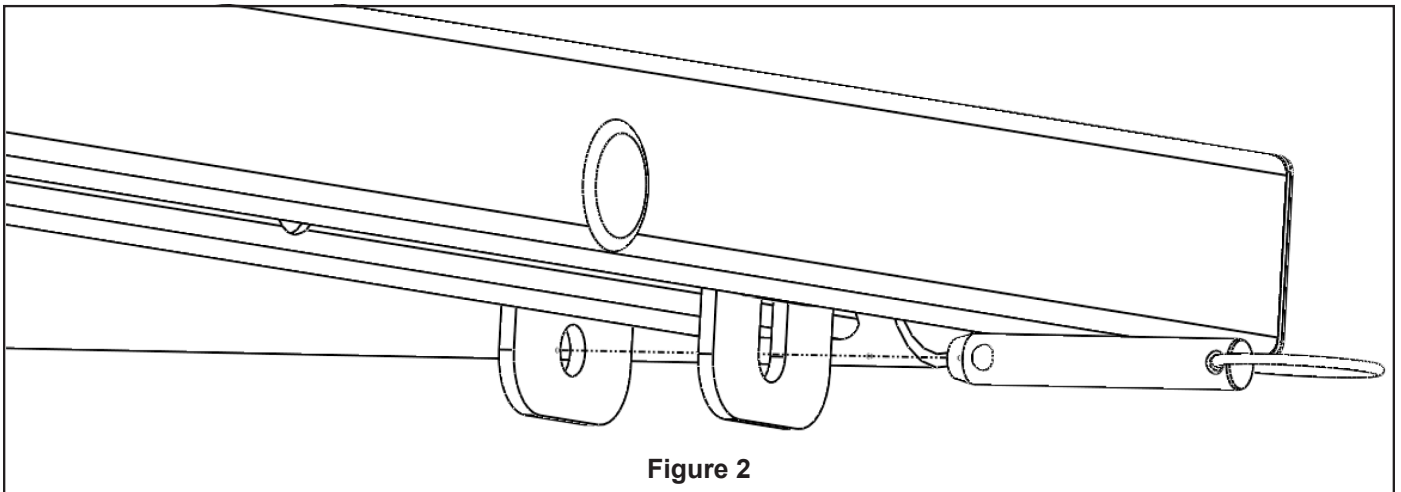

Figure 2
4. Locate the detent pins. Each extension requires two detent pins. Insert pins through the slot in the bracket and then through the hole (Figure 2).